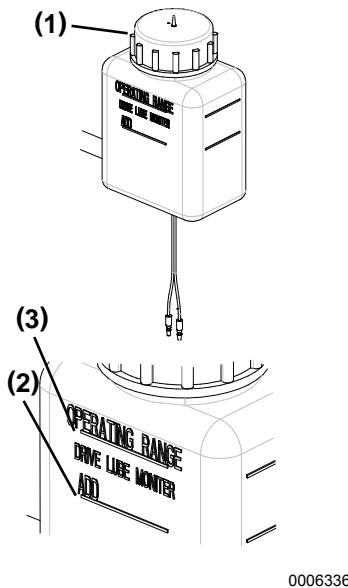

Figure 2
1. Check the stern-drive oil level **(Figure 2)**. Keep the oil level at or near the OPERATING RANGE (full) line on the oil reservoir.